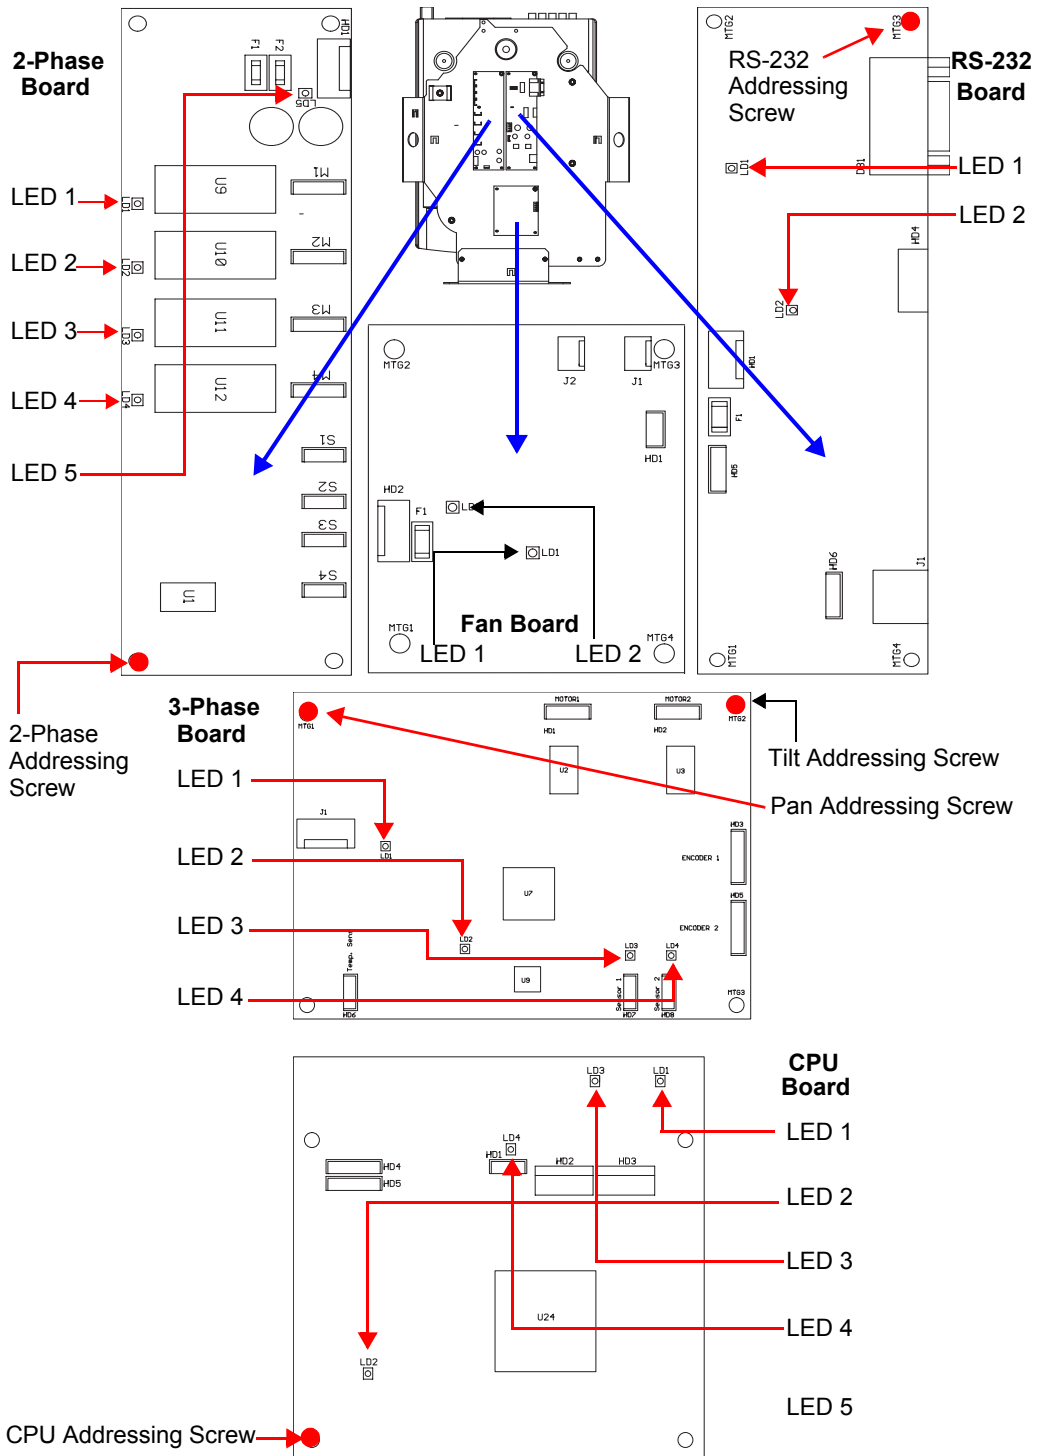

Figure 5-8 Addressing screw and LED locations.
4. Use a 3 mm allen wrench to remove the addressing screws and star washers, (see Figure 5-8 on page 5-10 for addressing screw location).
LEDs located on DL.1 fixture boards indicate how the unit is functioning. Table 5-1 lists LED States, and problems they may indicate. For details on locating board LEDs, see Figure 5-8 on page 5-10.